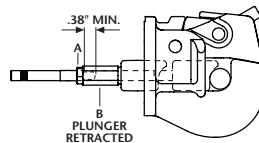

Figure 1
- A. Loosen cylinder rod jam nut (A) as shown in Figure 1.
- B. Turn the plunger rod (B) out (counterclockwise) a distance equal to the difference between your mounting structure thickness and 1".
8. Check the plunger adjustment. When properly adjusted, the plunger should tightly grip a 1.25" round bar (or plunger adjustment tool TF-03147) when energized (see Figure 1) and retract far enough when de-energized to allow easy removal of the drawbar.